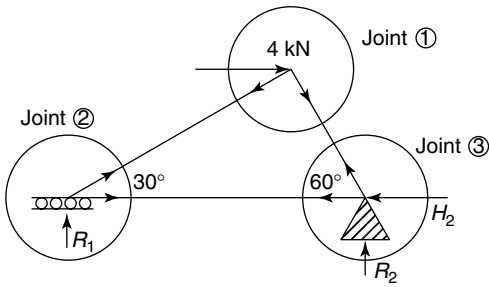
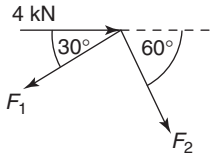

Figure 4.30
Figure 4.31
Firstly, we will assume that all unknown internal forces are in tension, as shown by Figure 4.30.
Next, we will isolate each joint by making imaginary cuts around each joint, as shown by the circles in Figure 4.30; this will result in three free body diagrams. The first free body diagram will be for joint (1), as this joint has two or less unknown forces; see Figure 4.31.